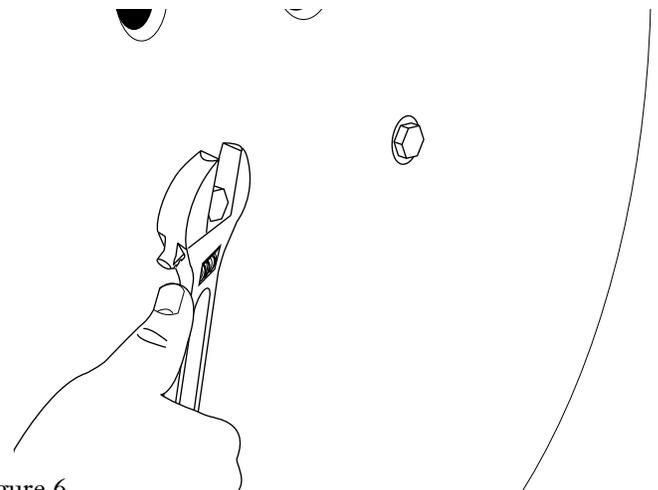

Figure 6
**4.5** Ensure that all flange bolts are tight prior to loading a reel for respooling or cable cutting (Figure 6).